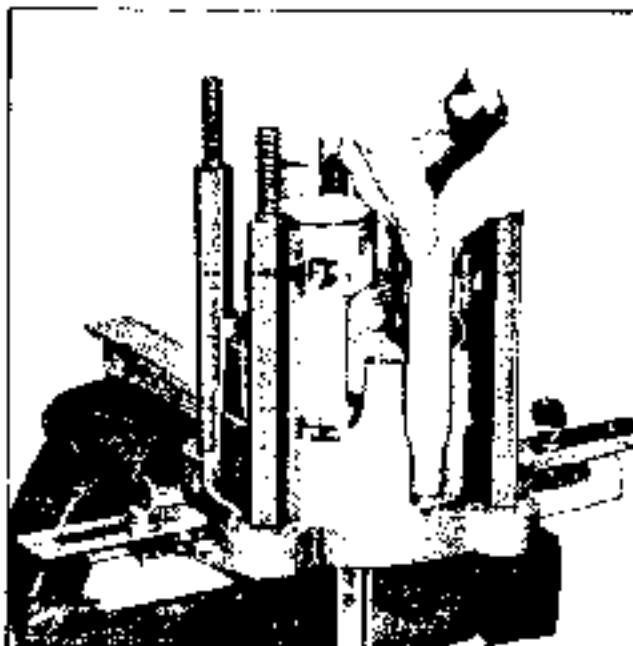

Fig. 1A-37 Installing Service Discharge Crossover Tube
3. Assemble one end of service discharge crossover tube into hole in front cylinder (Fig. 1A-37).